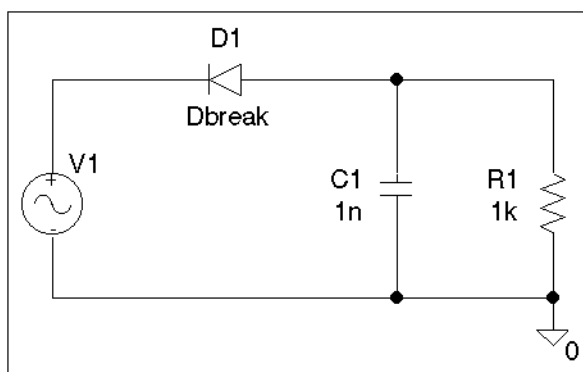

Figure 4-5 Design for a half-wave rectifier.
3. Place one each of the following parts (reference designator shown in parentheses) as shown in Figure 4-5 on page 222:
4. From the Wire menu, choose Draw and draw the connections between parts as shown in Figure 4-5 on page 222.